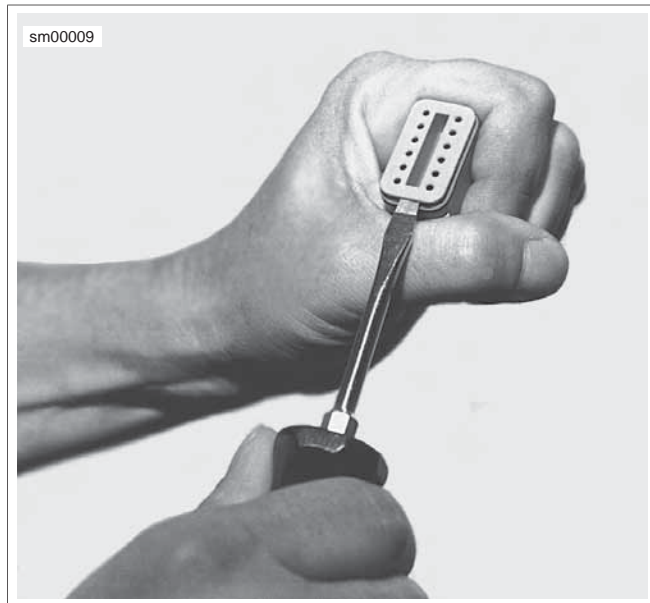

Figure A-12. Deutsch Connector: Remove Secondary Locking Wedge
- See Figure A-12. Insert a small screwdriver between the socket housing and locking wedge in-line with the groove (in-line with the pin holes if the groove is absent). Turn the screwdriver 90 degrees to pop the wedge up and remove the secondary locking wedge.